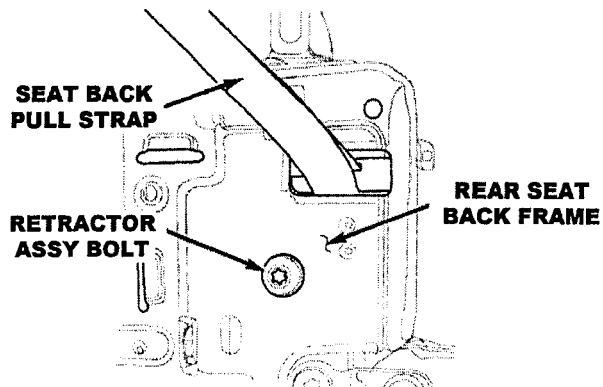

Figure 7 Seat Back Rear View
- 26. Remove the seat belt retractor assembly bolt below the pull strap from the back of the seat back frame (Figure 7).
30. Install and tighten the seat belt retractor assembly bolt below the pull strap from the back of the seat back frame that secures the retractor. Tighten the screw to 32 ft-lbs (43 N·m) (Figure 7).